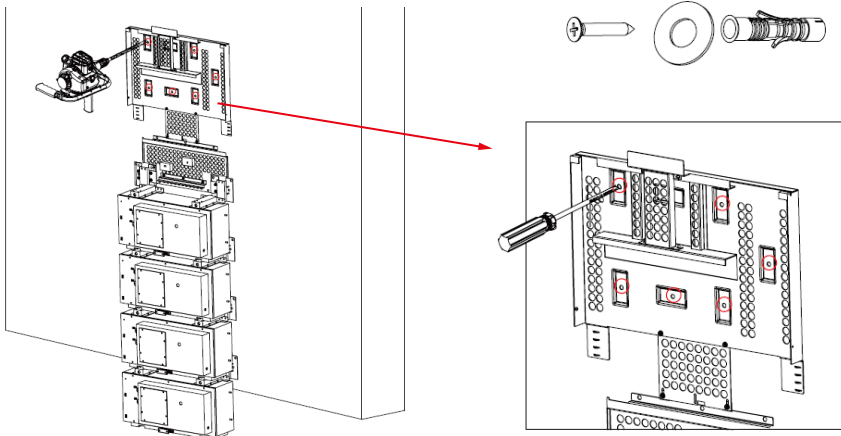

Figure 20 Installation of the Bracket B of the Inverter
Step 11 Cover the PE bag on the top battery to block out the dust before drilling. Please drill holes directly on the wall at the marked positions of the brackets with an impact drill (bit ϕ 8.0mm, length 20cm), and the depth of each hole is about 7 cm. Please insert the expansion tube into the drilled hole. Pass the tapping screw through the gasket and lock with a screwdriver, as Figure 20 shows.